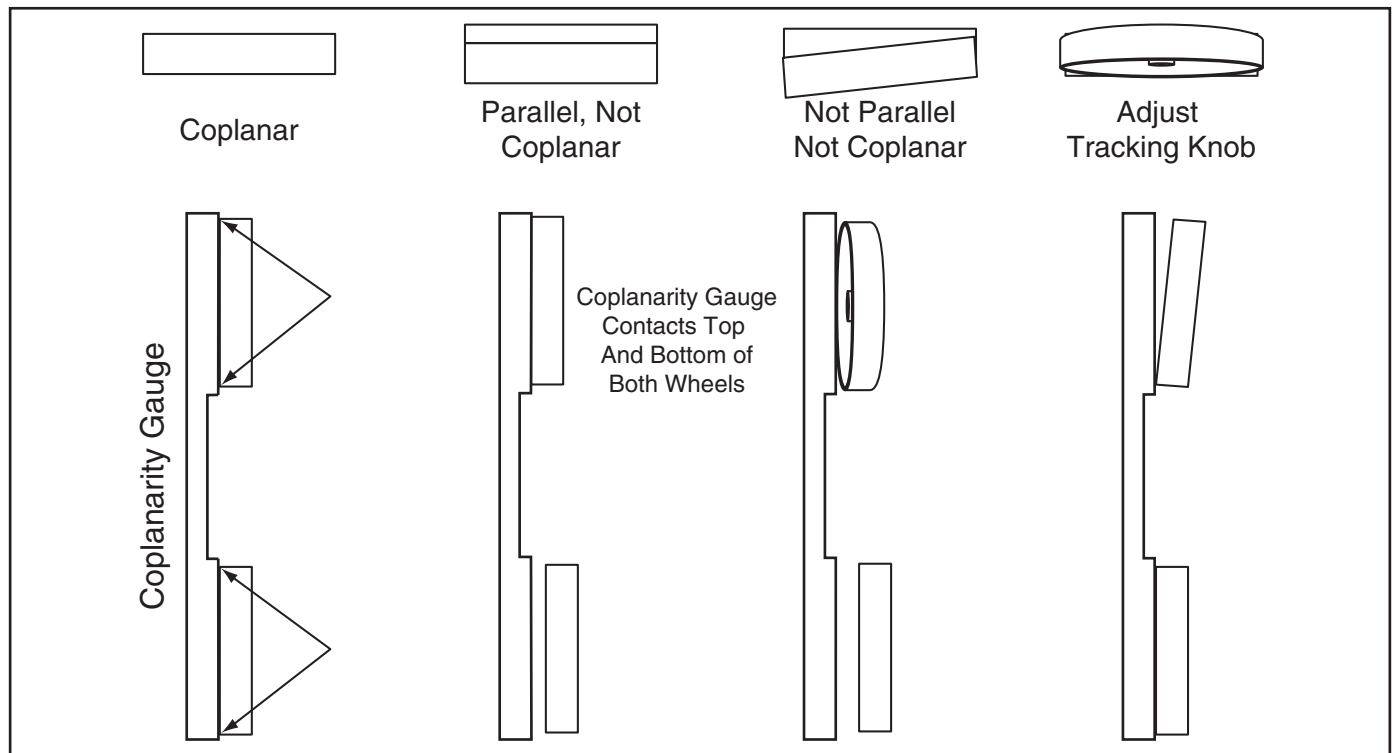

Figure 65. Coplanarity diagram.
7. **Figure 65** shows the positions of the wheels when coplanar. When your wheels are coplanar, re-adjust the guide blocks and rear support bearings, and replace the wheel covers.